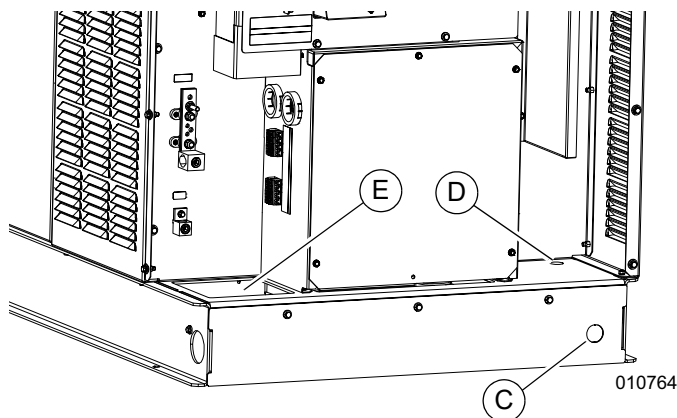

Figure 3. Ethernet Cable Install Locations
- See **Figure 3**. Unit may have a knockout (C) on rear kick plate at unit base (either side). Run Ethernet cable through knockout in kick plate or pull cable through generator installation pad.